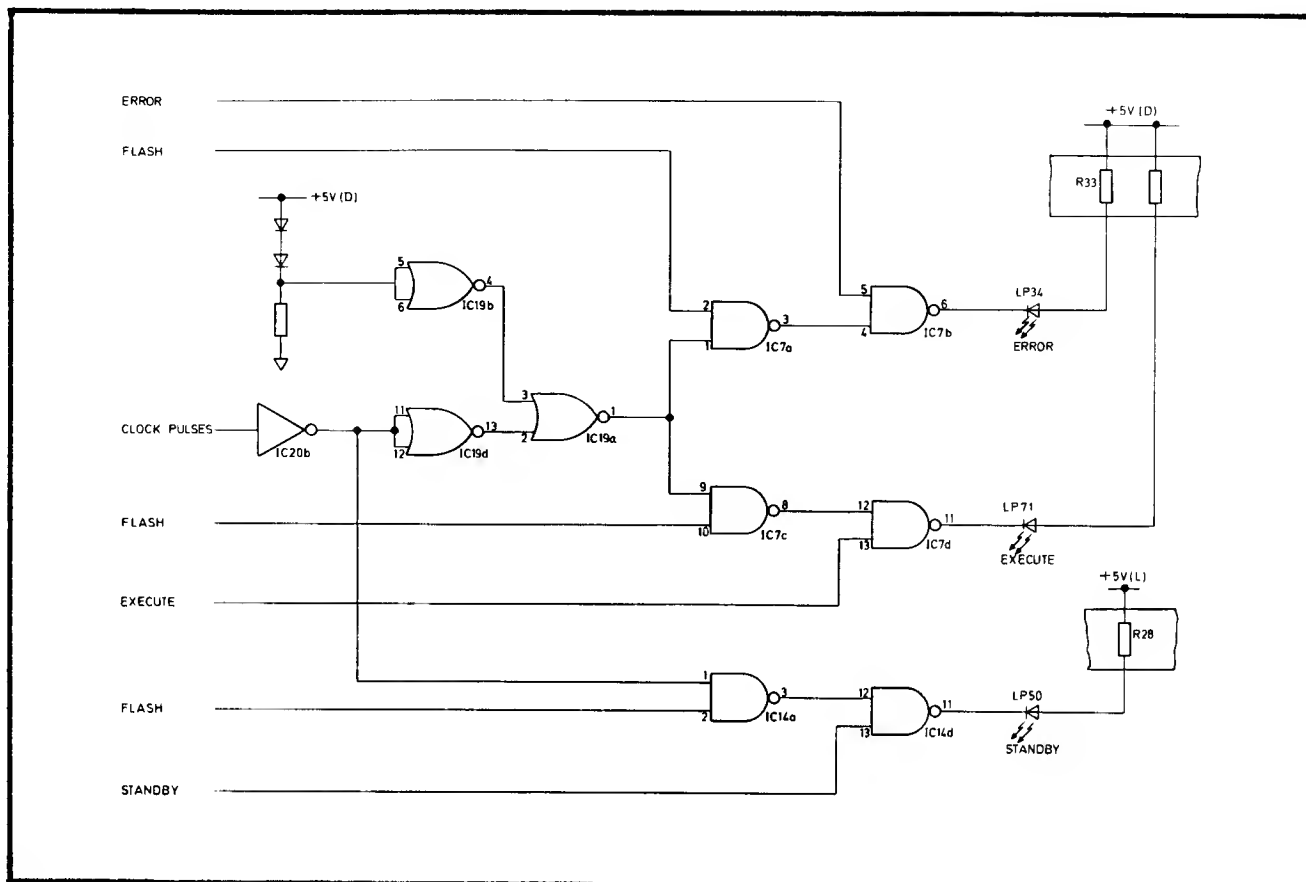

Fig. 6.10 Indicator Control Circuit
6.5.6.3.1 The ERROR indicator, and the STANDBY and EXECUTE key indicators, are required to flash under certain conditions. The flash rate is determined by the circuit containing IC23a and b. The indicator control circuit is shown in Fig. 6.10.